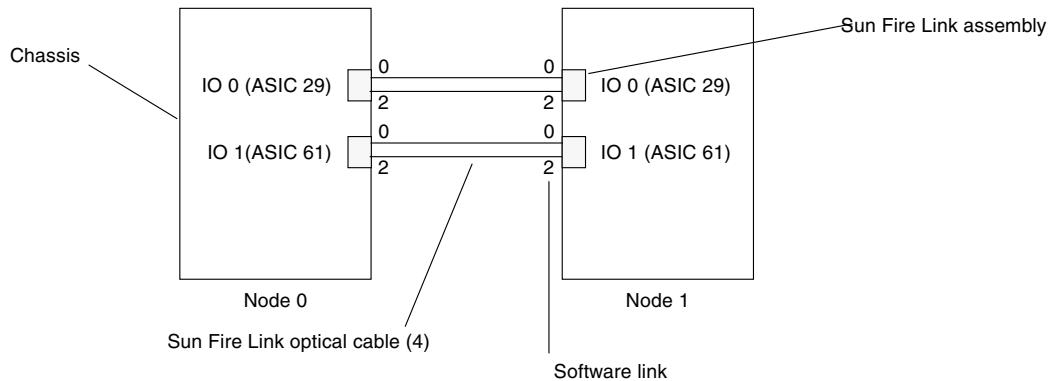

FIGURE 2-4 Sample Cabling Diagram (Sun Fire 15K/12K Systems)
A simple Sun Fire Link network of two Sun Fire15K/12K systems is shown in FIGURE 2-4.
- In FIGURE 2-4 there are two nodes: node 0 and node 1.